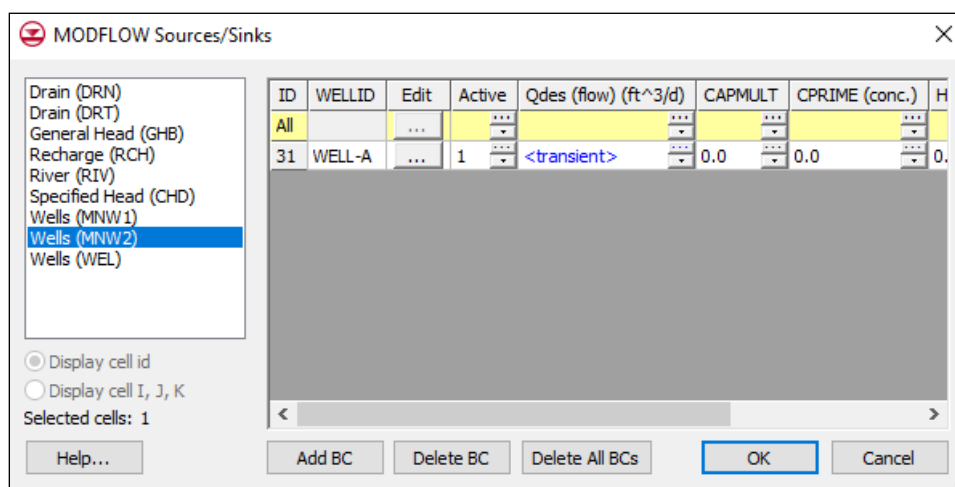

Figure 11 Sources/Sinks dialog
2. Right-click on the selected cell and select **Sources/Sinks...** to bring up the *MODFLOW Sources/Sinks* dialog (Figure 11).